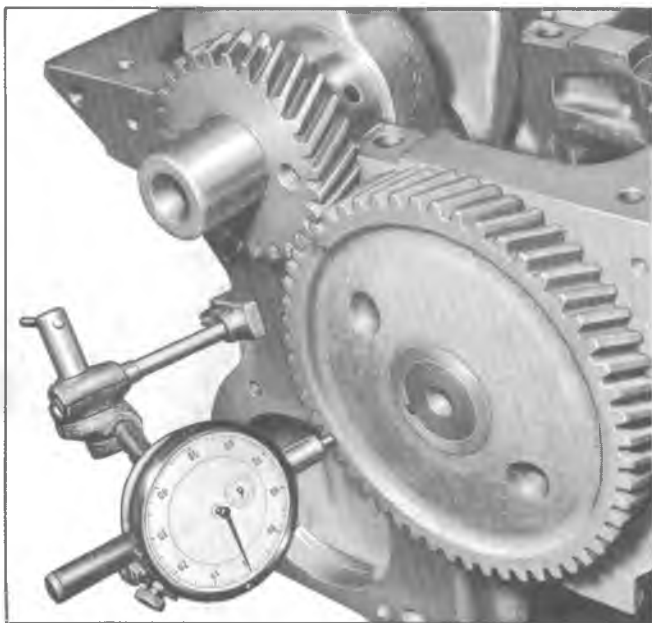

Fig. 17L—Checking Camshaft Gear Runout
3. Check camshaft and crankshaft gear run out with a dial indicator (fig. 17L). The camshaft gear run out should not exceed .004" and the crankshaft gear run out should not exceed .003".